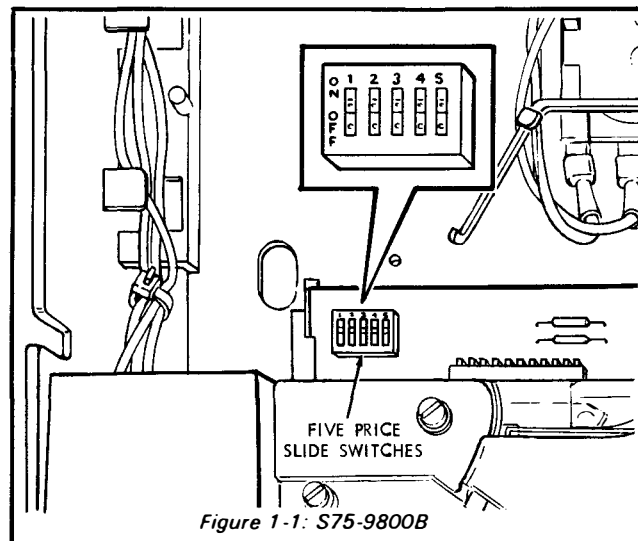

Figure 1-1: S75-9800B
2. The S75-9800B has one switch module with five rocker switches located on the upper portion of the printed circuit board. (Figure 1-1) (These switches correspond to prices as follows: #1=5¢, #2=10¢, #3=20¢, #4=40¢, and #5=80¢). When the top of the rocker switch is pushed in, the switch is in the ON position. Vend price is set by adding the value of all rocker switches in the ON position. **EXAMPLE:** Switches #2 and #3 in the ON position = 30¢ vend price.